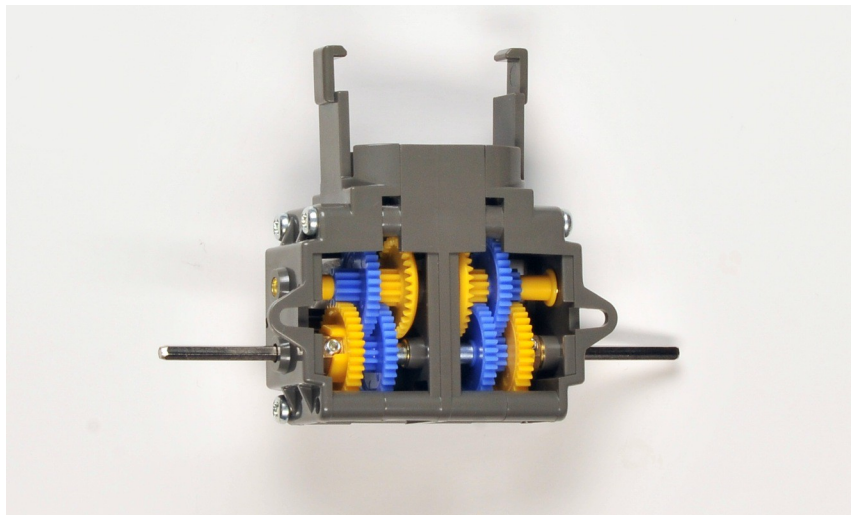

Figure 1.27
23. The completed both sides of the gearbox housing is shown in figure 1.27